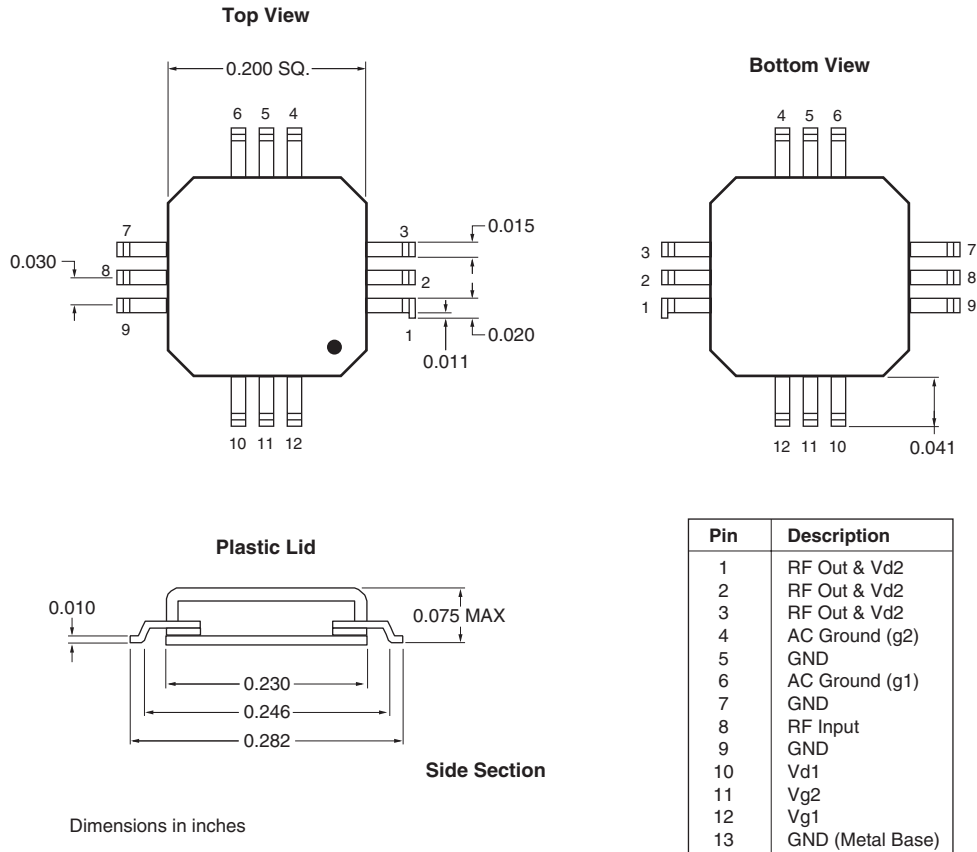
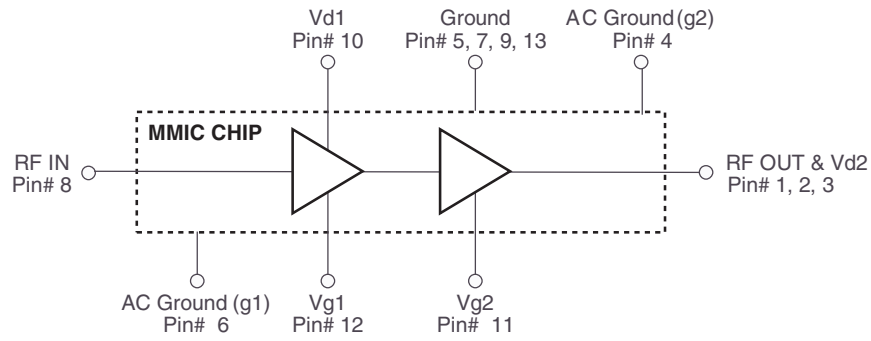
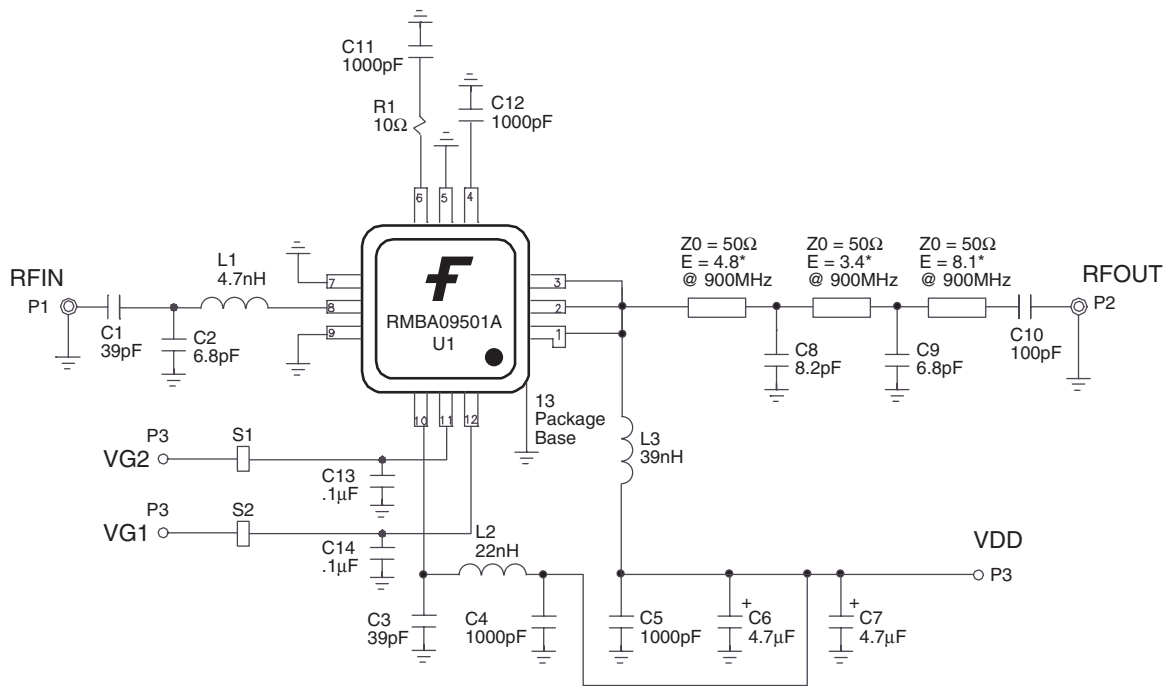
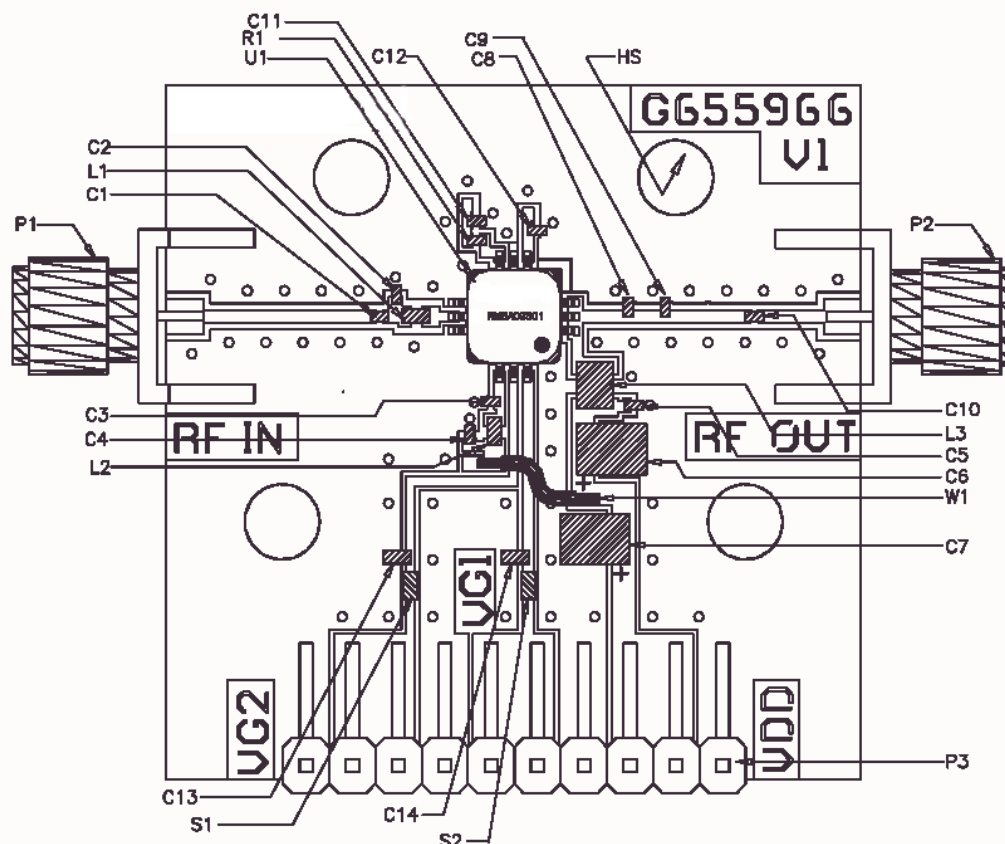

Figure 1. Package Outline and Pin Designations
Figure 2. Functional Block Diagram of Packaged Product
Figure 3. Schematic of Application Circuit Showing External Components
Figure 4. Layout of Test Evaluation Board (RMBA09501-TD, G657471)
The device requires external input and output matching to 50Ω as shown in Figure 3 and the Parts List.
The following describes a procedure for evaluating the RMBA09501, a monolithic high efficiency power amplifier, in a surface mount package, designed for use as a driver stage for Cellular Base stations, or as the final output stage for Micro- and Pico-Cell base stations. Figure 1 shows the package outline and the pin designations. Figure 2 shows the functional block diagram of the packaged product. The RMBA09501 requires external passive components for DC bias and RF input and output matching circuits as shown in Figure 3 and the Part List. A recommended schematic circuit is shown in Figure 3. The gate biases for the two stages of the amplifier may be set by simple resistive voltage dividers. Figure 4 shows a typical layout of an evaluation board, corresponding to the schematic circuits of Figure 3. The following designations should be noted:
- (1) Pin designations are as shown in Figure 2.
- (2) Vg1 and Vg2 are the Gate Voltages (negative) applied at the pins of the package.
- (3) Vgg1 and Vgg2 are the negative supply voltages at the evaluation board terminals.
- (4) Vd1 and Vd2 are the Drain Voltages (positive) applied at the pins of the package.
- (5) Vdd1 and Vdd2 are the positive supply voltages at the evaluation board terminals.